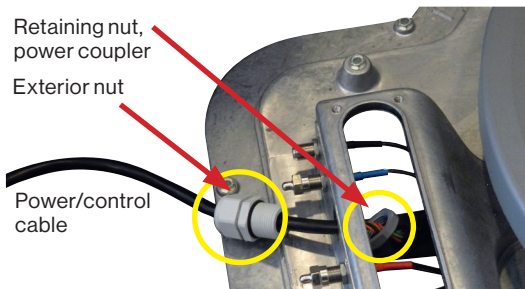

FIGURE 12. Unclip the power coupler
2. Unclip the power coupler from the internal power cable. Unthread and remove the power/control cable retaining nut located inside the turret. See figures 12 and 13.